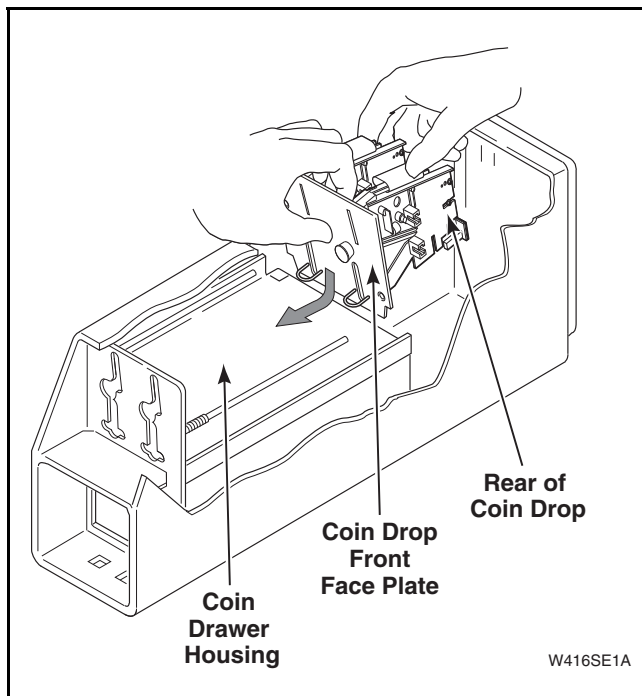

Figure 58
- (5) Lift up front face plate of coin drop with one hand, while gently pushing down rear of drop with other hand, so the bottom of the drop's front face plate clears coin drawer housing. Refer to *Figure 58*.